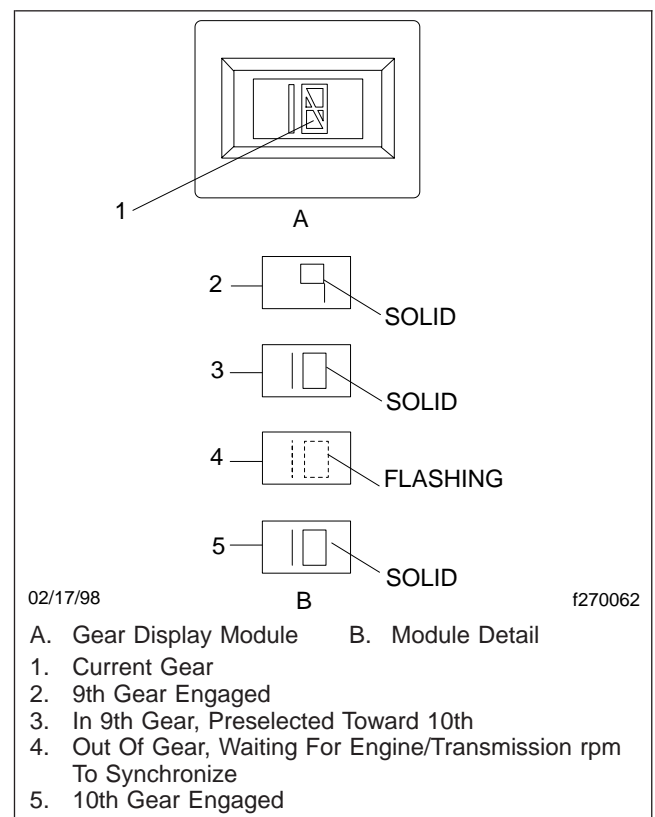

Fig. 8.4, Gear Display Module
- The Gear Display Module (**Fig. 8.4**) mounted on the dashboard indicates the current gear position or transmission status. The display also flashes the next gear to be engaged while the transmission is in Neutral during a gear change.
2. Ensure that a solid "N" appears on the gear display module. See Fig. 8.4.